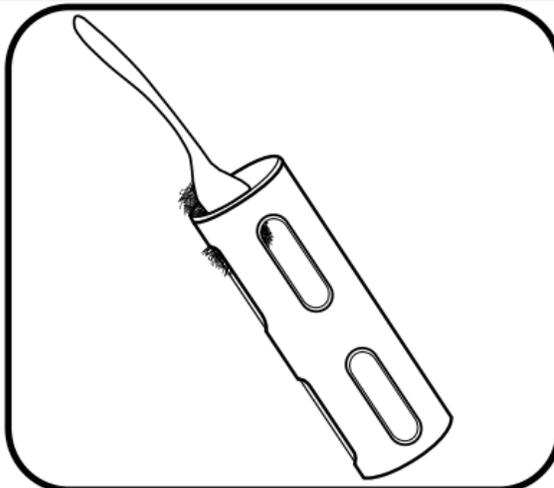

Figure 24. Scrub to Remove Heavy Biofouling
**STEP 2.2** | If biofouling remains on the guard, use a small plastic scrub brush or plastic scraper to gently scrub the biofouling off the guard (Figure 24).